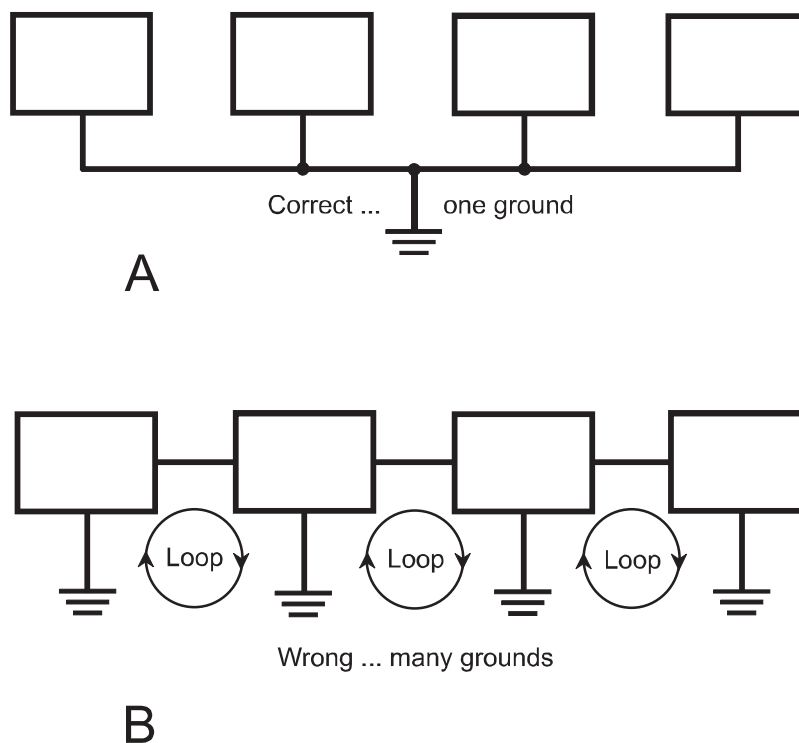

Fig. 12-5. At A, the correct method for grounding multiple units. At B, an incorrect method creates RF ground loops.
A good *RF ground* system can help minimize EMI. Figure 12-5 shows a proper RF ground scheme (A) and an improper one (B). In a good RF ground system, each device is connected to a common *ground bus*, which in turn runs to the earth ground by means of a single conductor. This conductor should be as short as possible. A poor ground system contains *ground loops* that increase the susceptibility of equipment to EMI. Long ground wires and ground loops can act as antennas at RF, no matter how good the connection to the earth.